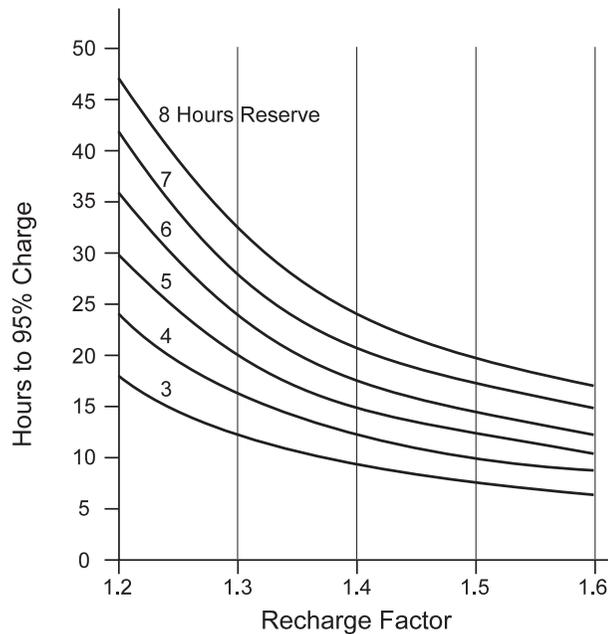

Figure 3-1: Recharge Factor vs. Recharge Time
The battery recharge current is determined by two system considerations: the maximum time the system is required to operate in the absence of ac power (reserve time), and the time allocated to recharge the battery after ac power returns. These two times and Figure 3-1 may be used to determine the recharge factor. This factor, when multiplied by the average busy-hour current, determines the minimum installed rectifier capacity, or:
From Figure 3-1, the recharge factor is 1.38.
2. A two-shelf battery plant is required to provide a load current of 85A, have a 5-hour discharge time (reserve time) and recharge to 95% of battery capacity in 24 hours. Determine the number of 12.5A rectifiers required for non-redundant and redundant systems. From Figure 3-1, the recharge factor is approximately 1.25.
Figure 3-1 illustrates several general guidelines for choosing the recharge factor.